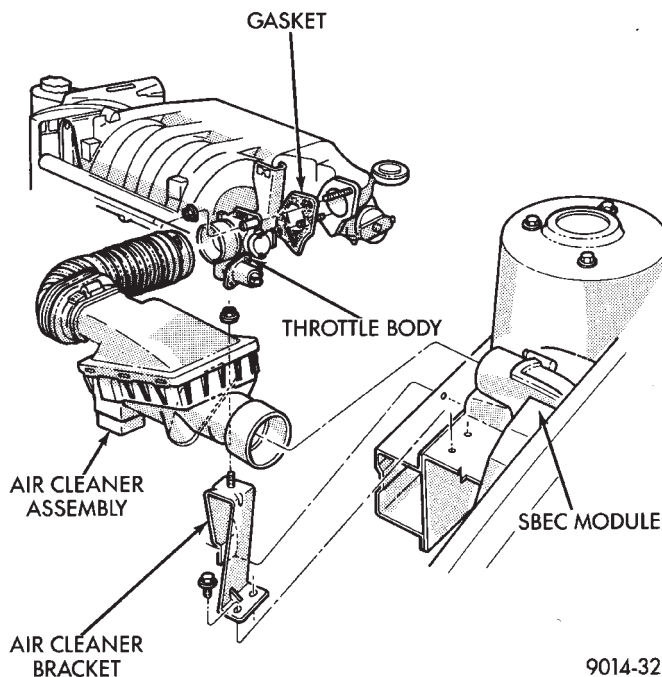

Fig. 1 Throttle Body Assembly
- (1) Disconnect negative battery cable.
- (2) Remove the air cleaner to throttle body hose clamp. Remove the nut holding the air cleaner assembly to the air cleaner bracket. Remove the air cleaner (Fig. 1).
- (3) Remove throttle and the speed control cables.
- (4) Disconnect electrical connectors from the automatic idle speed (AIS) motor and throttle position sensor (TPS).
- (5) Disconnect vacuum hoses from throttle body.
- (6) Remove throttle body to intake manifold attaching nuts.
- (7) Remove throttle body and gasket.
- (8) Reverse the above procedure for installation.
- (1) Perform fuel system pressure release procedure **before servicing or starting repairs**. Refer to Fuel System Pressure Release Procedure in this section.
- (2) Disconnect negative cable from battery.
- (3) Remove air cleaner and hose assembly (Fig. 1).